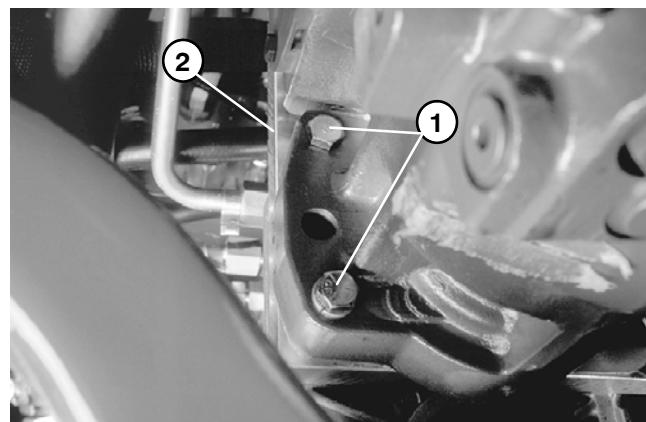

Figure 39
8. Support the transmission to prevent it from falling while carefully removing four (4) cap screws and lock-nuts retaining transmission to support plate. Carefully pull transmission off of support plate and lower it out of the machine (Fig. 39 and 40).
5. Carefully position transmission to the support plate while raising it into the machine. Support transmission to prevent it from falling while carefully installing four (4) cap screws and locknuts securing transmission to support plate. (Fig. 39 and 40).